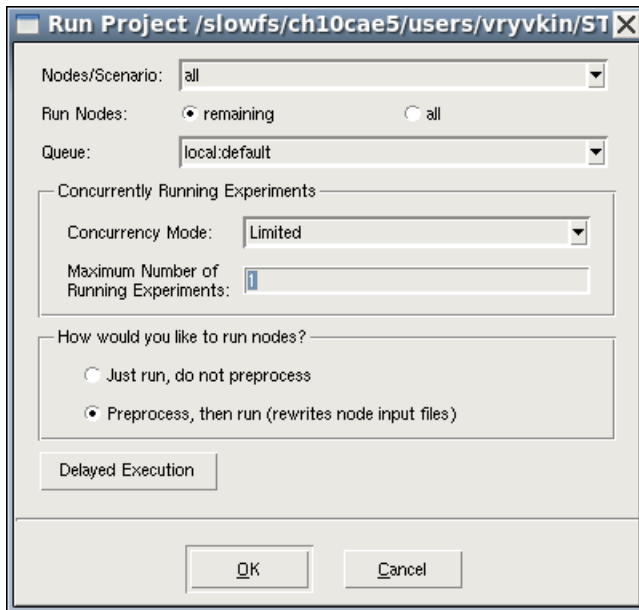

Figure 68 Run Project dialog box with Limited selected as the concurrency mode
- **Limited:** You specify the maximum number of running experiments that can be executed simultaneously. Sentaurus Workbench ensures this limit is respected during the entire project execution. This number must be between 1 and  $N - 1$ , where  $N$  is the total number of experiments. The default is 1, which gives you a strict experiment-wise project execution order (see Figure 68 on page 151).